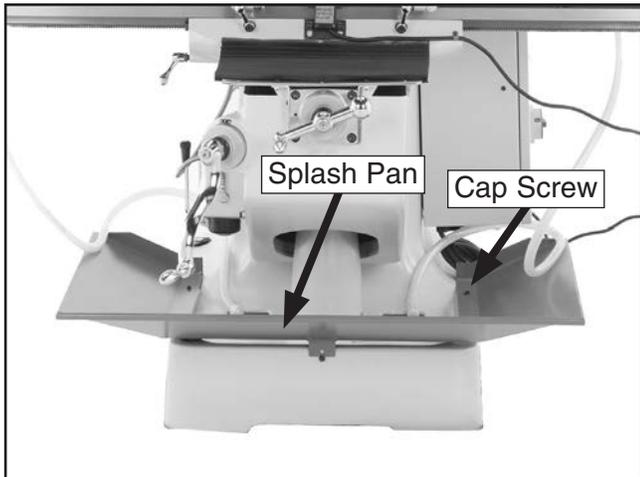

Figure 15. Splash pan installed.
6. Remove the cap screws on the rim of the base, position the splash pan in place, and secure it with the cap screws (see **Figure 15**).